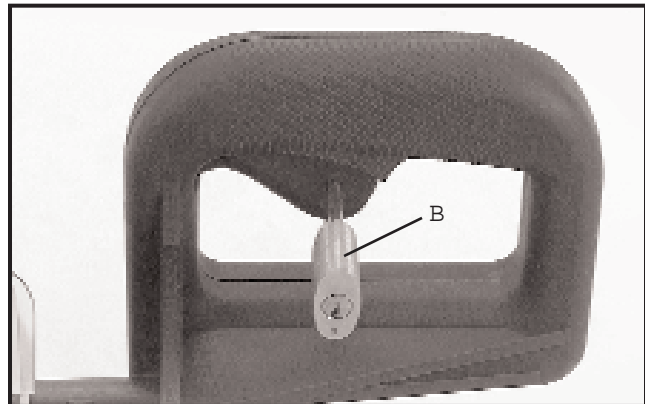

Fig. 16
IMPORTANT: When the miter saw is not in use, the switch should be locked in the OFF position using a padlock (B) Fig. 16, with a $\frac{3}{16}$ " diameter shackle to prevent unauthorized use of the saw.